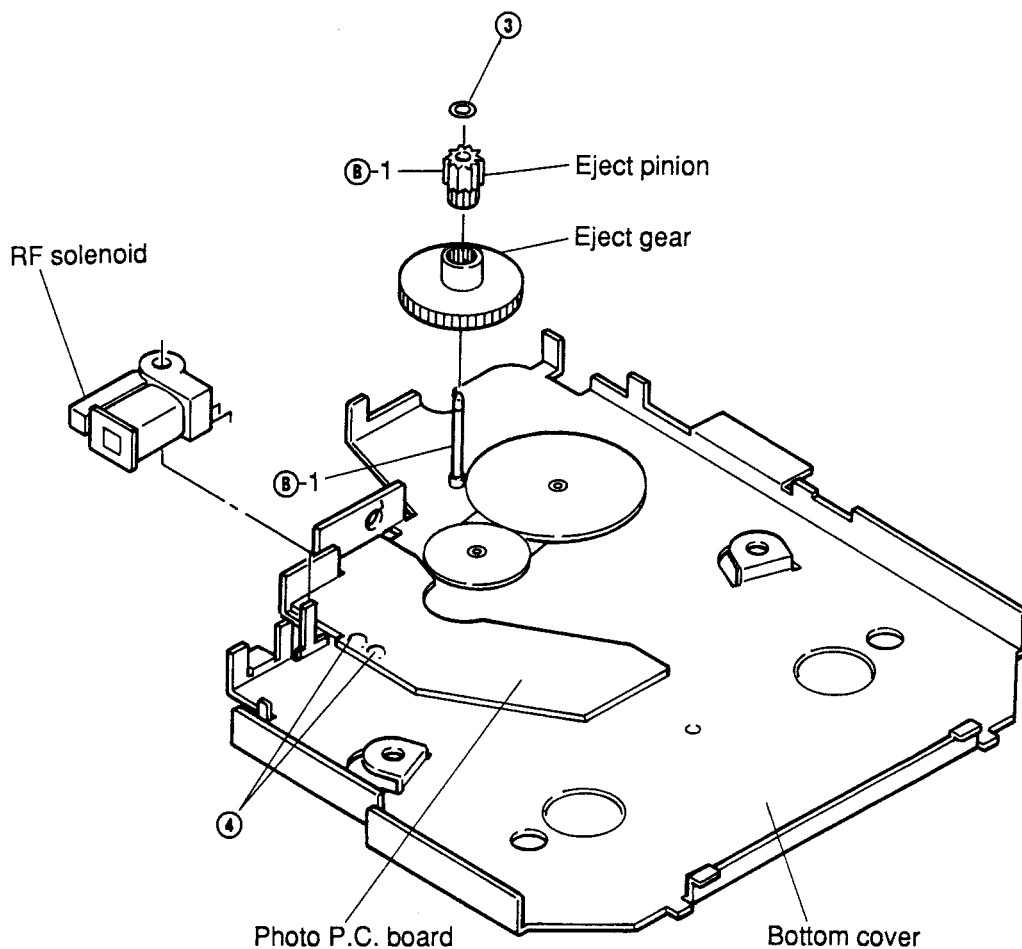

Figure 6
- (1) Remove M1.2 lock washer ③ as shown in Figure 6.
- (2) Pull the eject pinion out of the eject gear and remove the eject gear as shown in Figure 6.
- (3) Apply the molykote E paste to the section ⑧-1, and mount the eject gear following the removal steps in the reverse order. After replacement is finished, make sure that the gear rotates smoothly. (Refer to Figure 6.)
- (1) Remove two solders ④ and remove the RF solenoid from the bottom cover by pulling it up as shown in Figure 6.
- (2) Replace the solenoid with a new one, and remount it following the removal steps in the reverse order as shown in Figure 6.